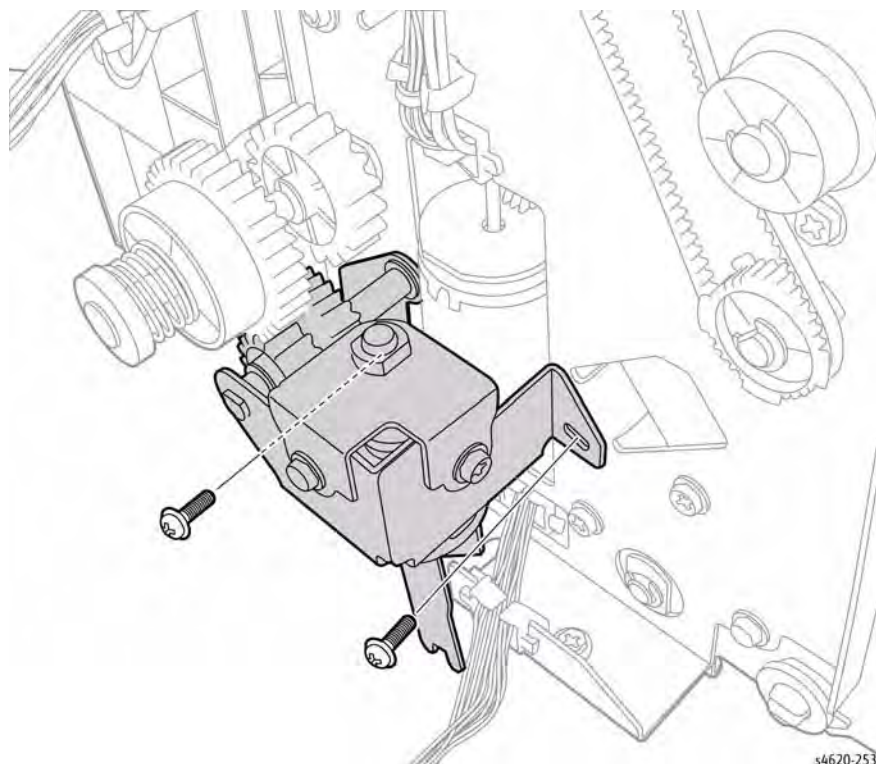

Figure 1 Disconnect and remove the Stacker Drive Assembly
4. Disconnect P/J124 from the motor to remove the assembly, Figure 1.